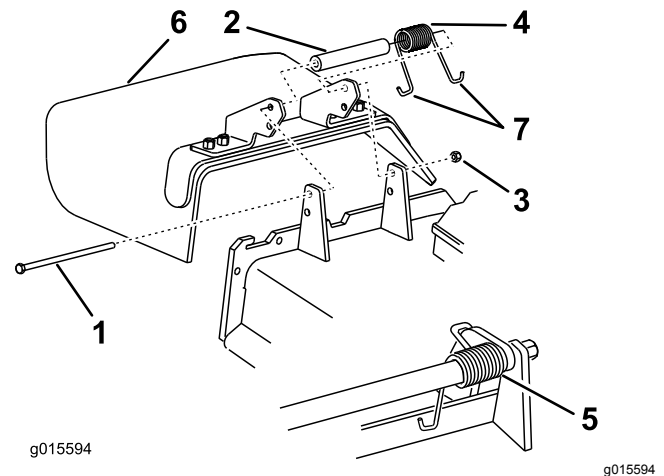

Figure 114
1. Remove the locknut, bolt, spring, and spacer holding the deflector to the pivot brackets (Figure 114).
2. Remove the damaged or worn grass deflector (Figure 114).
**Note:** Make sure that 1 J-hook end of the spring is installed behind the deck edge before installing the bolt as shown in Figure 114.
6. Place 1 J-hook end of the spring around the grass deflector (Figure 114).